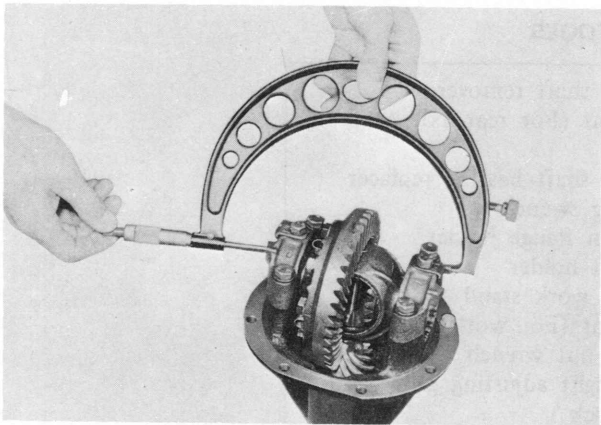

Fig. 9-38 Adjusting preload
3. The preload on the differential bearings is obtained by tightening the bearing adjusting nut. Tighten the bearing adjusting nut until the distance between both pilot sections on the bearing caps becomes 185.5 mm (7.306 in), as shown in Fig. 9-38.